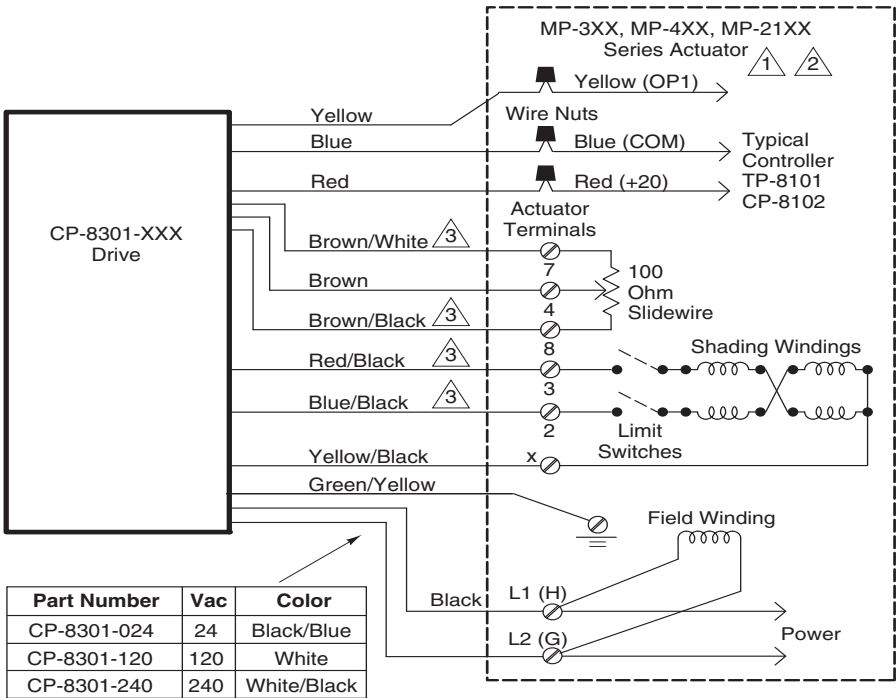
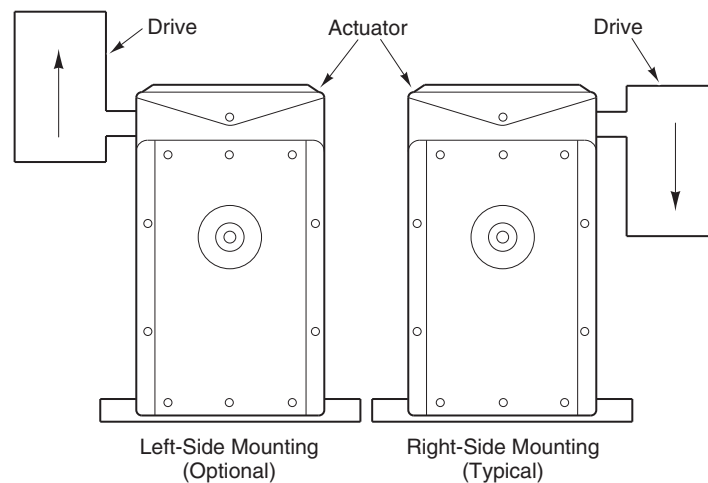
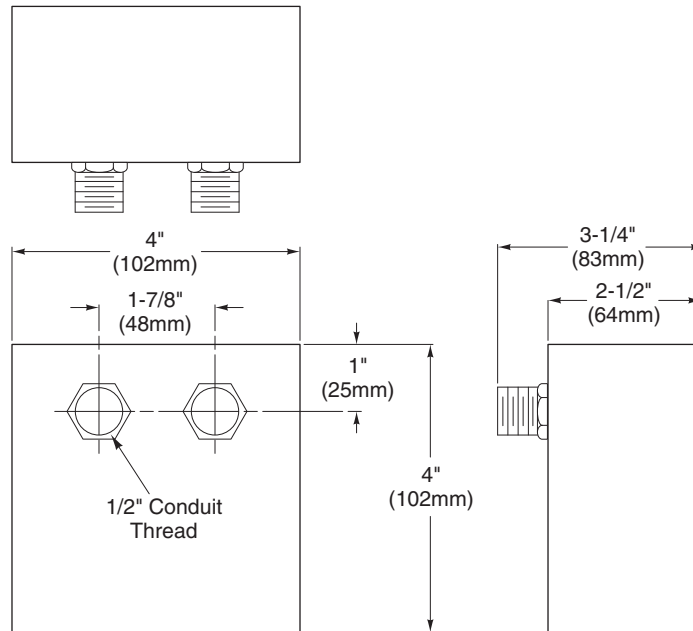

Figure-1 Service Application Wiring Diagram.
Figure-2 Mounting Position of Drive on Actuator.
Figure-5 Mounting Dimensions of CP-8301-xxx Series Electronic Actuator Drive.
Refer to Figure-1 for a service application wiring diagram showing the connections between a CP-8301-xxx series drive and an MP-3xx, MP-4xx or MP-21xx series actuator.
1. Insert the drive's two 1/2" conduit connectors into the two 1/2" knockouts provided on the actuator casing. Refer to Figure-1, Figure-2, and Figure-5.
Caution: The power wires must always be inserted directly into the power wiring compartment of the actuator. If the optional mounting position for the drive (refer to Figure-2) is used, it is required that the wires of the drive are routed to exit through its other conduit bushing.